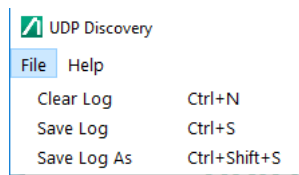

Figure 1-8. Clear History Using the File Menu
2. Click the File menu to display the menu as shown in Figure 1-8.